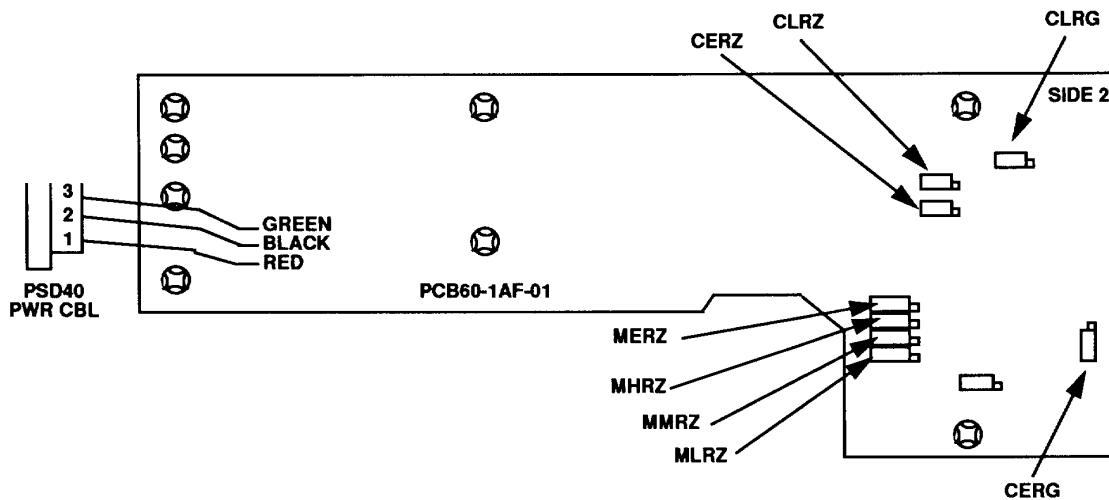

Figure 2. PCB60-1AF-01, side 2 - adjustment locations.
- (1) Remove capacitance standard connection from TI **TANK UNITS LOZ** and **HIZ** terminals.
- (2) Remove six screws from front panel and remove front panel assembly from case.
- (3) Adjust CLRZ potentiometer (fig. 2) until TI display indicates **0000** and - sign on the display alternately illuminates (R).
- (4) While pressing **EXTENDED RANGE** pushbutton, adjust CERZ (fig. 2) potentiometer until TI display indicates **0000** and - sign on the display alternately illuminates (R).
- (5) Repeat steps (3) and (4) above as necessary.
- (6) Repeat technique of a(7) and (8) above.
- (7) Adjust CLRG (fig. 2) potentiometer for a TI display indication within  $\pm 0.1\%$  of test report value (R).
- (8) Remove variable capacitance standard.
- (9) Repeat technique of a(4) and (5) above substituting .01  $\mu\text{f}$  capacitor standard.
- (10) While pressing **EXTENDED RANGE** pushbutton, adjust CERG potentiometer (fig. 2) for a TI display indication within  $\pm 0.1\%$  of recorded value (R).
- (11) Repeat steps a(3) through (13) above as necessary.
(12) Install front panel assembly in case and reinstall six screws which were removed.
- (1) Remove resistance standard connections.
- (2) Remove six screws from front panel and lift front panel from case.
- (3) Set **SELECT** switch to **LOZ-HIZ**.
- (4) Connect 10 MΩ resistance standard to TI **TANK UNITS LOZ** and **HIZ** using special test cables.
- (5) Adjust MLRZ potentiometer (fig. 2) for display indication of 10.00 (R).
- (6) Connect 100 MΩ resistance standard to TI **TANK UNITS LOZ** and **HIZ** using special test cables.
- (7) Adjust MMRZ potentiometer (fig. 2) for display indication of 100.0 (R).
- (8) Connect 1000 MΩ resistance standard to TI **TANKS UNITS LOZ** and **HIZ** using special test cables.
- (9) Adjust MHRZ potentiometer (fig. 2) for display indication of 1000 (R).
- (10) Connect 10 GΩ resistance standard to TI **TANK UNITS LOZ** and **HIZ** using special test cables.
- (11) Adjust MERZ potentiometer (fig. 2) for display indication of 10000 (R).
- (12) Replace front panel in case and reinstall six screws.